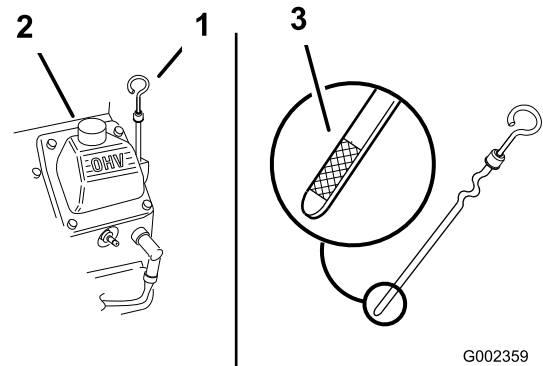

Figure 45
2. Clean around the oil dipstick (Figure 45) so dirt cannot fall into the filler hole and damage the engine.
3. Remove the dipstick, wipe it clean, and install until it is fully seated (Figure 45).
4. Remove the dipstick and check the oil level. The oil level should be between the “F” full and “L” low marks on the dipstick (Figure 45).
5. If the oil level is below the “L” low mark, remove the filler tube cap (Figure 45) and add the specified oil until the level reaches the “F” full mark on the dipstick.